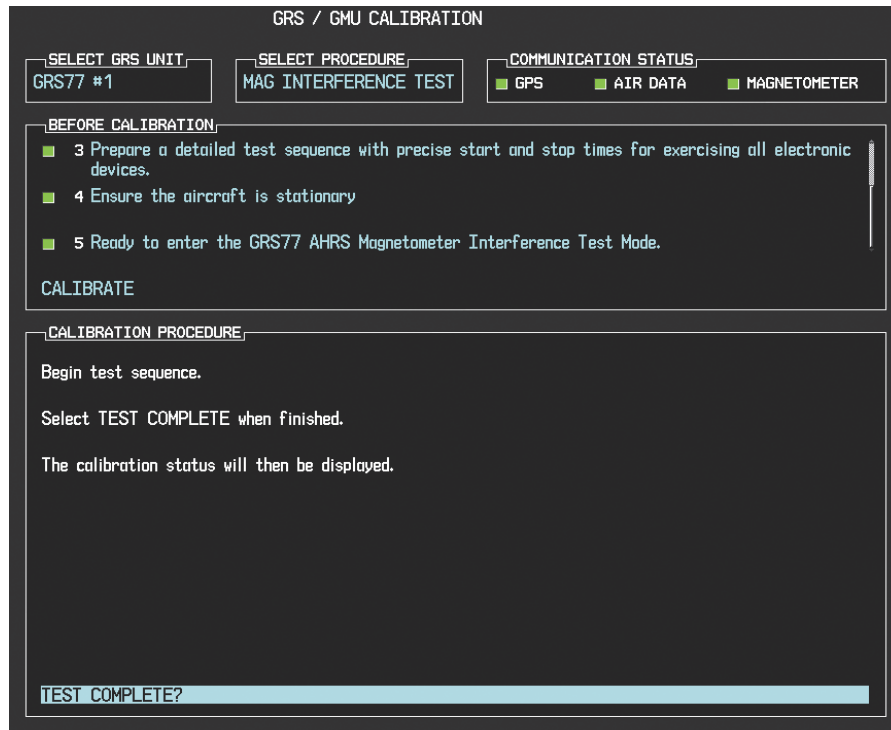

Figure 7-6. Magnetometer Interference
1. Enter Configuration Mode and go to GRS/GMU Calibration page as shown in Figure 7-6.